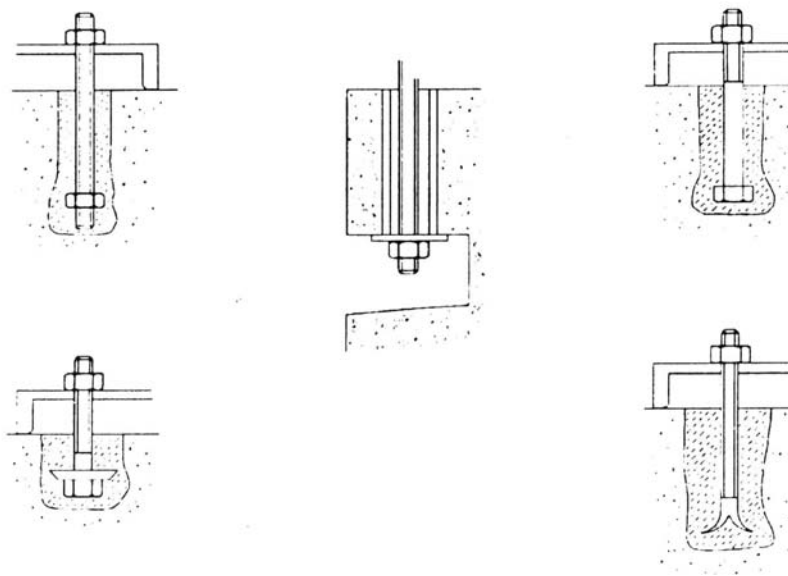

Fig 2-1. Typical foundation bolts and their installation (For all this types, bolt size must be M12).
2.4 Foundation bolts are use to anchor the Base plate to the supporting foundation and come in various types as shown in fig 2-1.